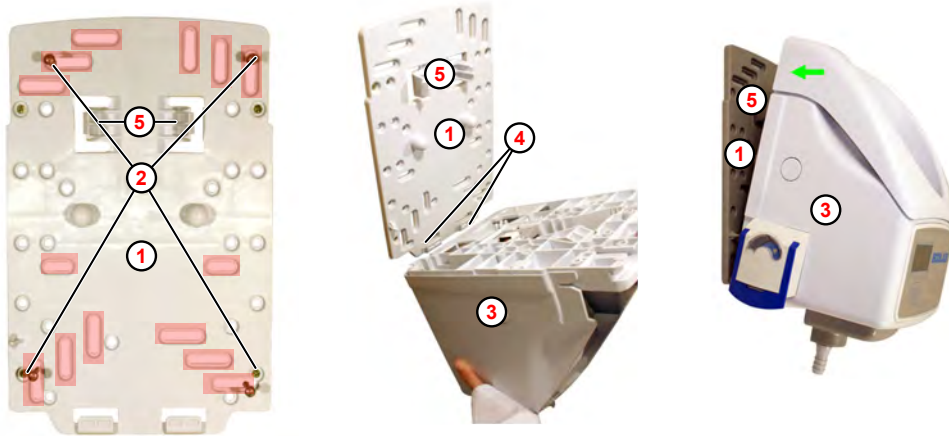

Fig. 3: Wall mounting (example with EcoPlus S)
- ① Wall bracket
- ② Drill holes
- ③ EcoPlus S
- ④ Hooks
- ⑤ Retaining clip
1. ➤ Mark the desired drill holes ② at the mounting position using the wall bracket (Fig. 3 , ①).
3. ➤ Fix the wall bracket ① to the wall using suitable attachment parts.
4. ➤ Place the EcoPlus S ③ in the hooks ④ of the wall bracket ① from above.
5. ➤ Swivel the EcoPlus S ③ onto the wall bracket ① and press it backwards until it audibly engages.